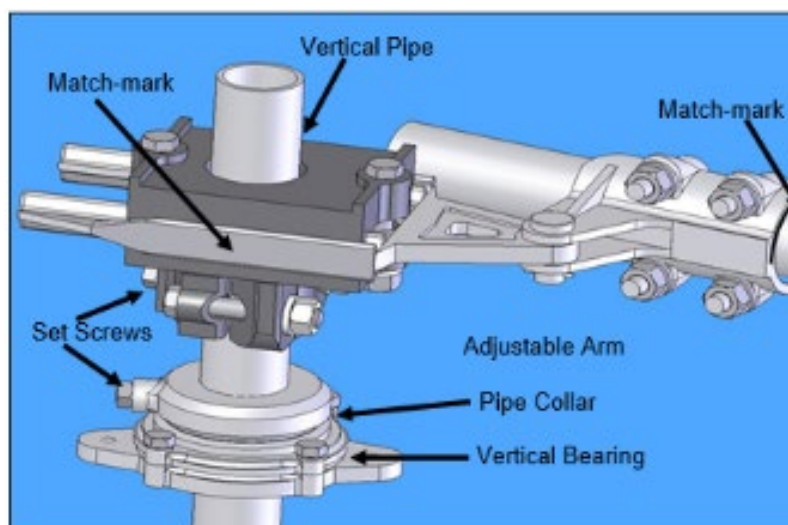

Figure 7: Typical Operating Arrangement
- 3.1.1.1. **Important:** The pipe collar must support the entire weight of the vertical pipe. Do not allow the housing of the manual or motor operator to bear any of the weight of the vertical pipe. See **Figure 7**.
- 4.1. The operating mechanism is intended to fully open and fully close the disconnect switch by rotating the vertical operating pipe $180^{\circ}\pm$ using an operator (manual or electrical). The interphase pipe controls the individual operation of each switch pole, using a push/pull control. The reach rod translates the motion of the vertical operating pipe to the interphase linkage. The adjustable arm (**Figure 7**) controls the total amount of switch operation available.